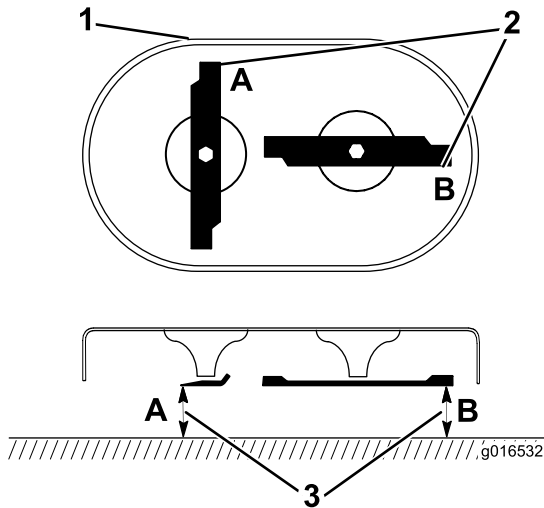

Figure 34
1. Rotate the blades until they are positioned as shown in Figure 34.
2. Measure from a level surface to the cutting edges at locations **A** and **B**, (Figure 34), and record both dimensions.